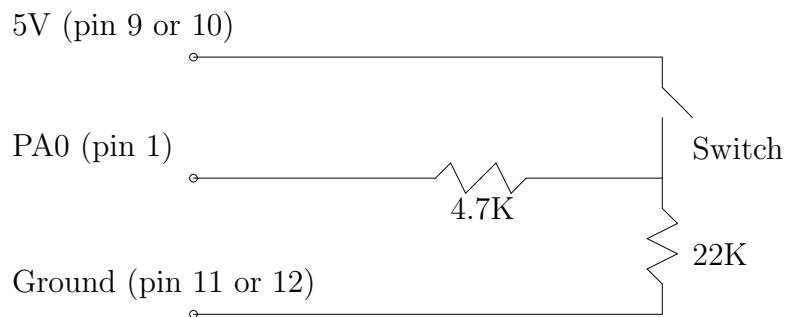

Figure 3.2: *Typical input connection*
8. Connect the input circuit as shown in figure 3.2.
2. Connect the input circuit as shown in figure 3.2.